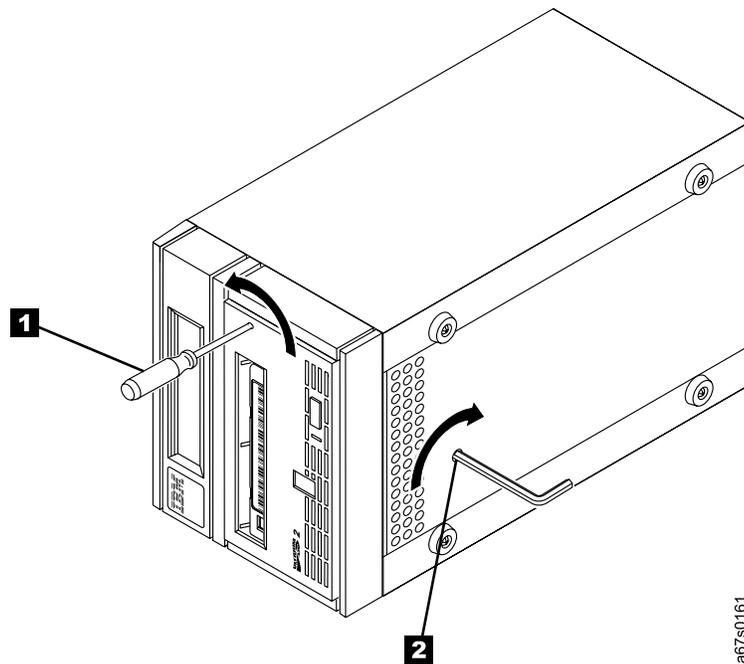

Figure 26. Moving the leader pin block into the cartridge. When the leader pin block reaches the cartridge, it disengages the leader pin.
1. Insert a small-blade screwdriver potentiometer into the access hole for the loader motor gear (see **1** in Figure 26).
1. With the small-blade screwdriver, continue to rotate the loader motor gear in the unload direction (counterclockwise) (see **1** in Figure 26 on page 87). The cartridge moves slowly out of the tape load compartment.